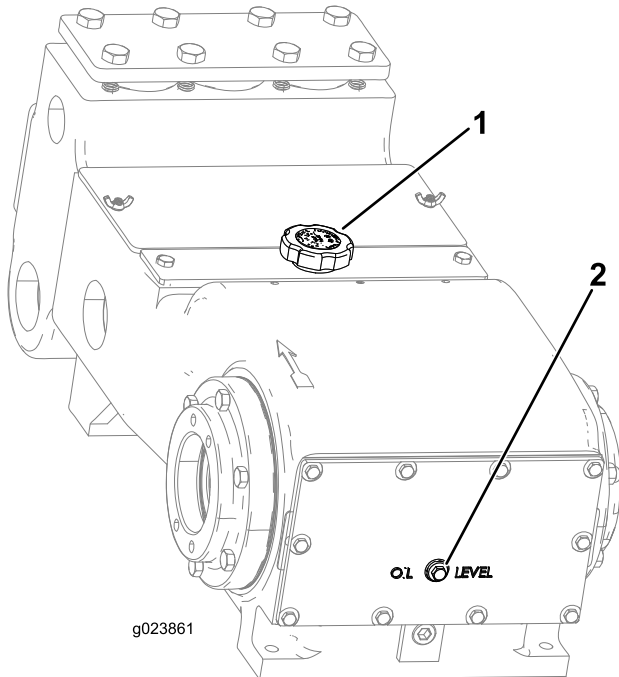
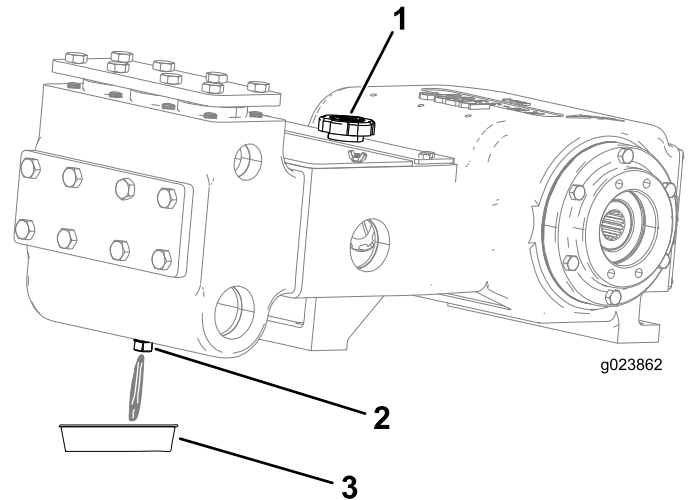

Figure 154
Figure 155
2. Remove the oil-level plug on the crankcase (Figure 154).
3. Ensure that the oil is at the oil-fill line as shown in Figure 154.
4. Remove the drain plug and place a drain pan under the drain-plug hole (Figure 155).
6. Allow all of the oil to drain from drain plug into the oil pan (Figure 155).
8. Remove the oil-filler cap (Figure 155) and add approximately 1.8 L (4 US qt) of oil, or until the oil reaches the level of the oil-level plug as shown in Figure 154.